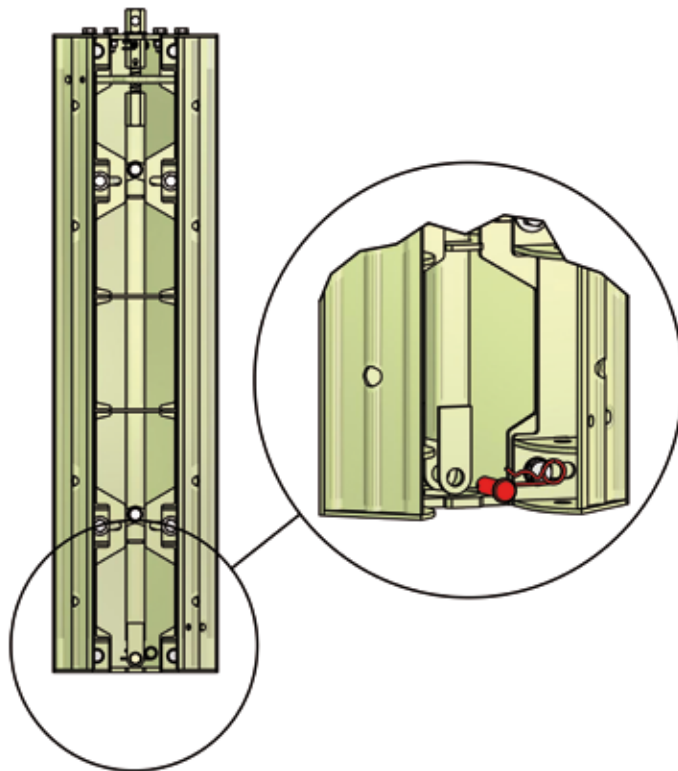

fig. 7
3. Remove the bolt with the split pin on the top dismantling inside corner post. (see fig. 7)